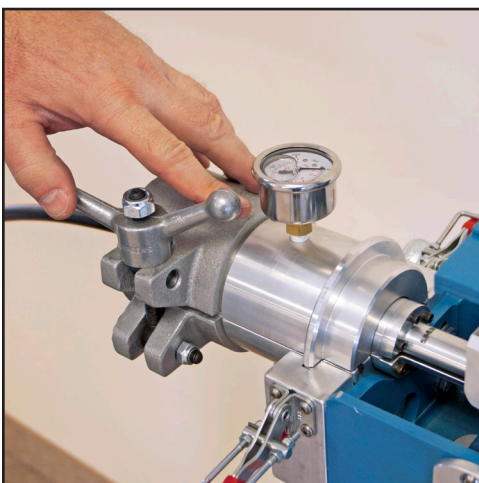

Figure 9. Tighten Blower Clamp
1. Secure the blower assembly by closing the hinged top and tightening the blower clamp. (See figure 9)